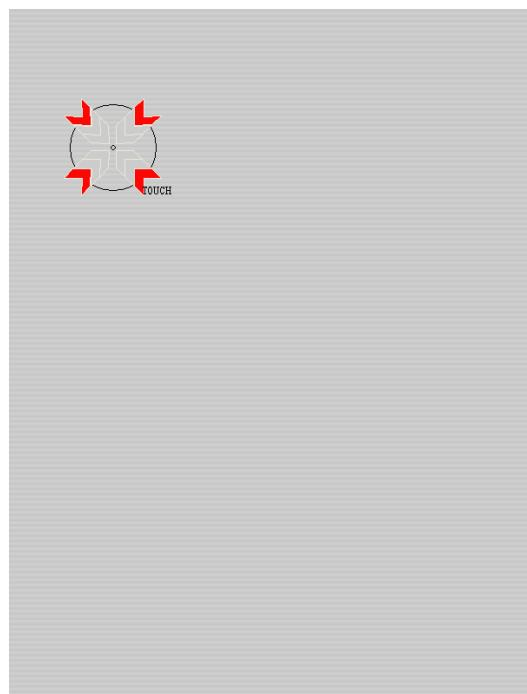

FIGURE 23. Calibration Window Example
6. Follow the on-screen instructions and press “Accept” when finished. See FIGURE 23.